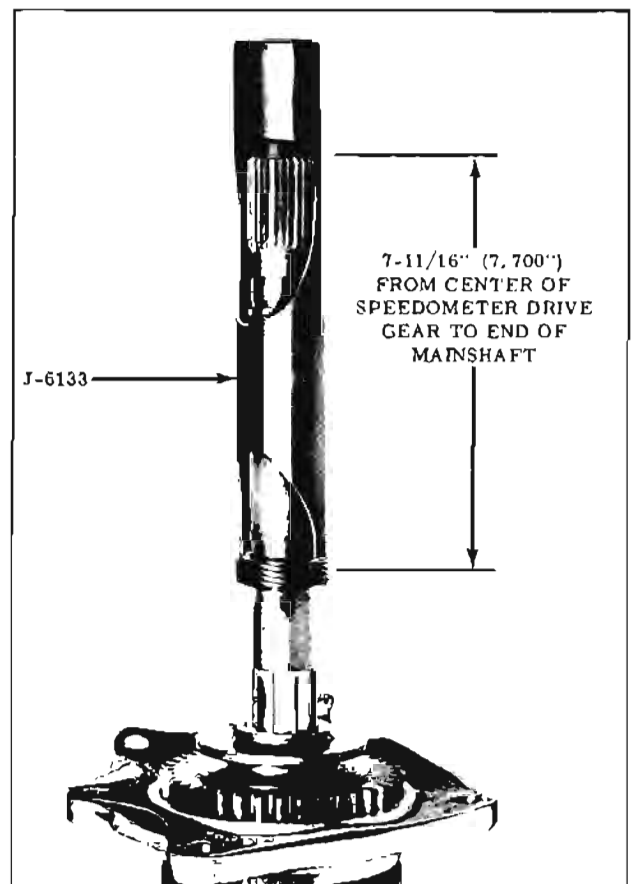

Fig. 11-245 Installing Speedometer Drive Gear
10. Install the speedometer drive gear onto the main shaft using tool J-6133. Position the gear  $7\text{-}11/16$ " (7.7") from the center of the gear to the end of the main shaft. (Fig. 11-245)